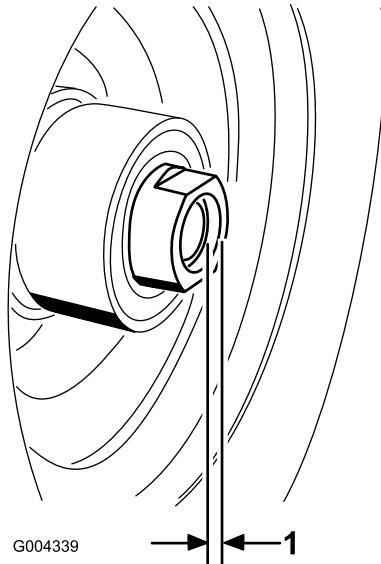

Figure 27
11. If both spacer nuts were removed from the axle, apply thread locking adhesive to the spacer nut. Install the spacer nuts onto the axle leaving an 1/8 inch (3mm) of the nut past the axle (Figure 27).
16. Torque the spacer nut to 75-80 in-lb (8-9 N·m) then loosen it and torque it to 20-25 in-lb (2-3 N·m). Make sure the axle does not extend past either nut (Figure 27).